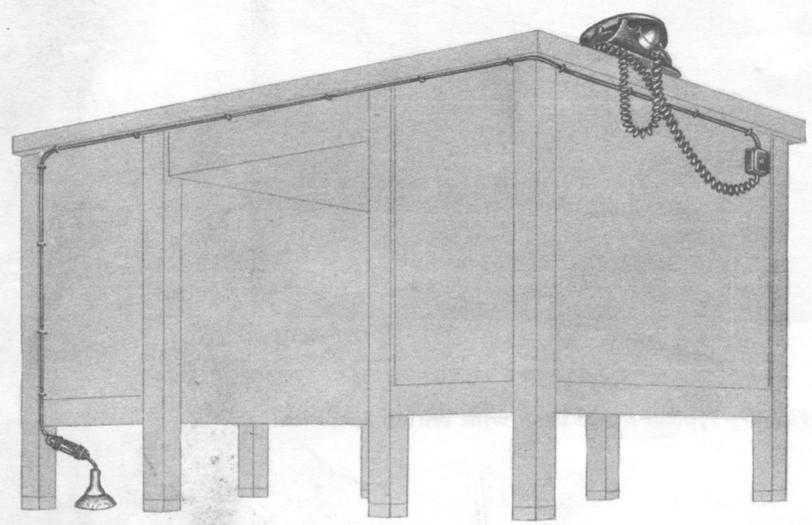

Fig. 10 – Typical Wiring of Desk Having No Wiring Facilities
4.02 Wiring of a desk having no facilities for concealing wire and cable is shown in Fig. 10.